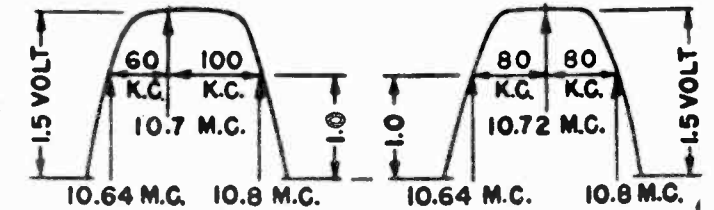

FIGURE 1. FIGURE 2.
**EXAMPLE:** (See Figures 1 and 2.)